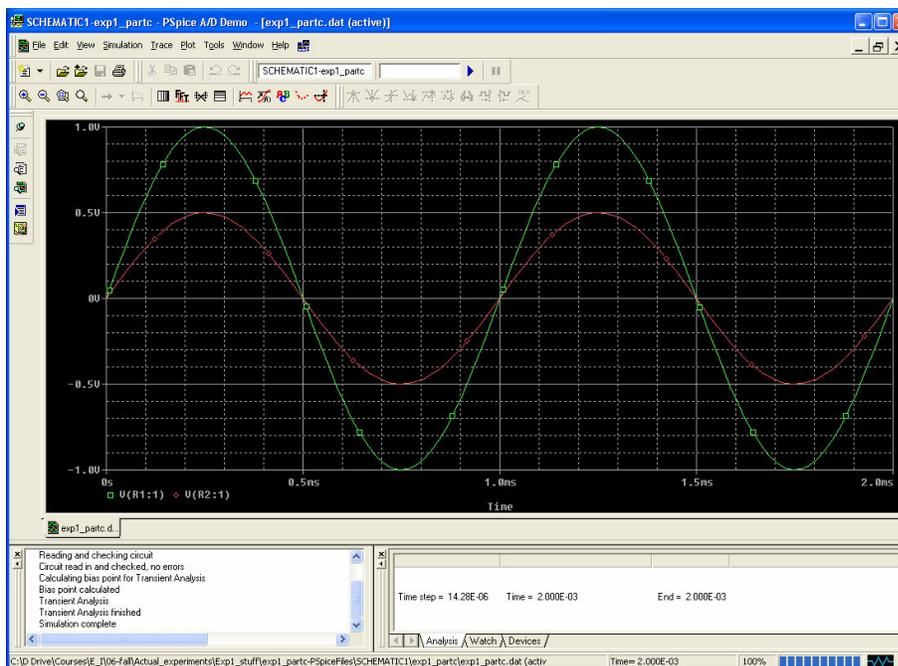

Figure C-10.
- Click on the *Run* button. It is possible to set up many kinds of analyses using the *Simulation Settings* window. Since you have already told *PSpice* where you want to know the voltage, it will produce a plot with the signal you have asked for. If you do not get something that looks like Figure C-10, ask for help.